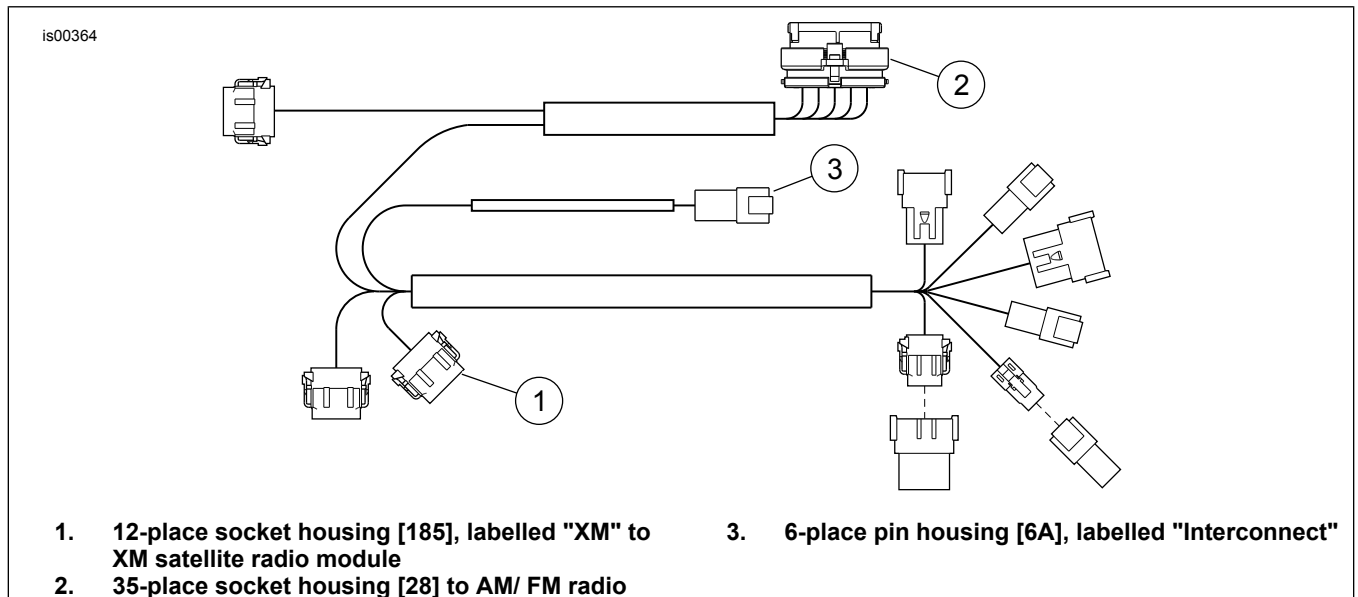
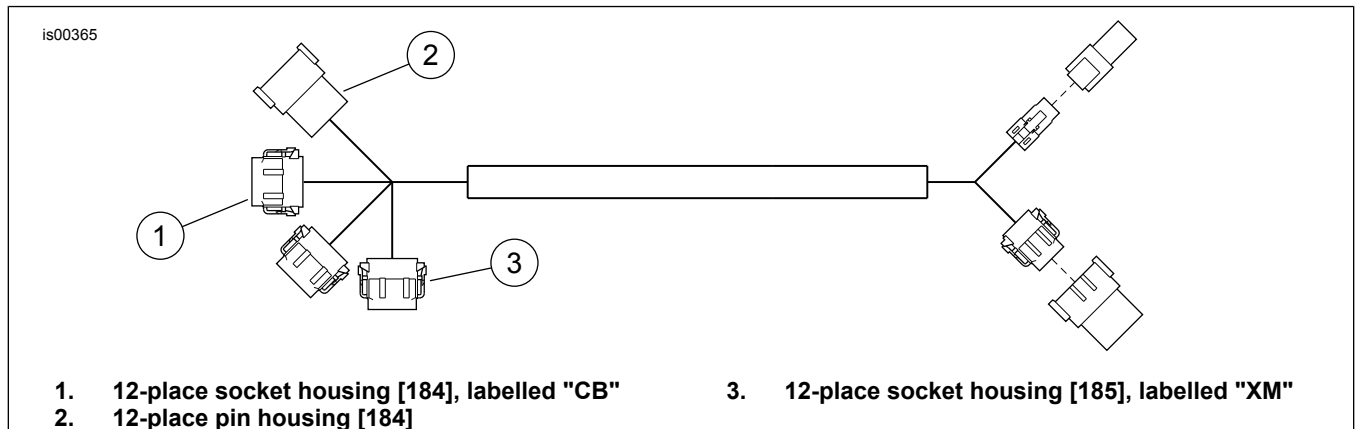

Figure 4. Non-Ultra Overlay Harness
Figure 5. Ultra Overlay Harness
12. Obtain the overlay harness (purchased separately), unless already installed. **FLHT, FLHTC, FLHX and FLTR models:** See Figure 4. **FLHTCU models:** See Figure 5.
- a. Plug the overlay harness 12-place socket housing (1) labelled "XM" [185] into the pin housing coming from the back of the XM radio module.
- b. Plug the 35-place radio socket housing [28] (2) into the radio.
- c. Locate the interconnect harness audio connector [6B] near the back of the radio. Plug 6-way pin housing [6A] (3) on the overlay harness into socket housing [6B].
- d. Plug the overlay harness 12-place socket housing (3) labelled "XM" [185] into the pin housing coming from the back of the XM radio module.